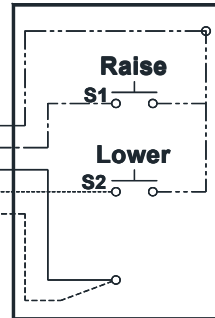

Fig. 18 – Electrical Wiring Diagram
- 53) Connect Power Unit to suitable electrical source as shown in Fig. 18.